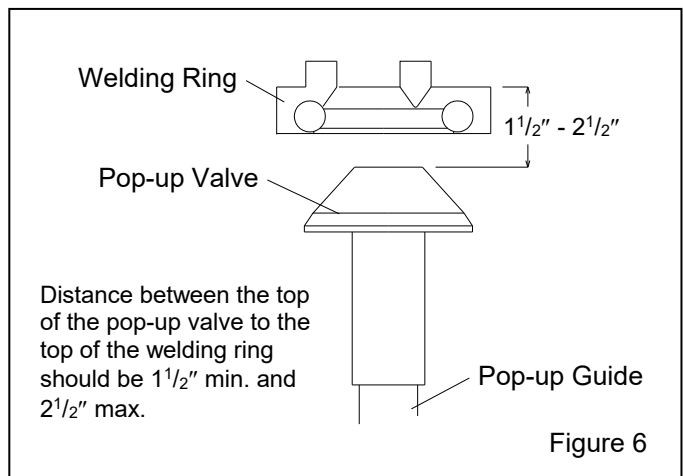

Figure 6
5.7.6 Refer to Figure 6 to check the pop-up height. If the pop-up sits too low, misalignment could occur when the pop-up comes up against the seal. If the pop-up sits too high, it will take longer for abrasive to flow through the opening. Adjust the height by replacing the guide with one that is longer or shorter.